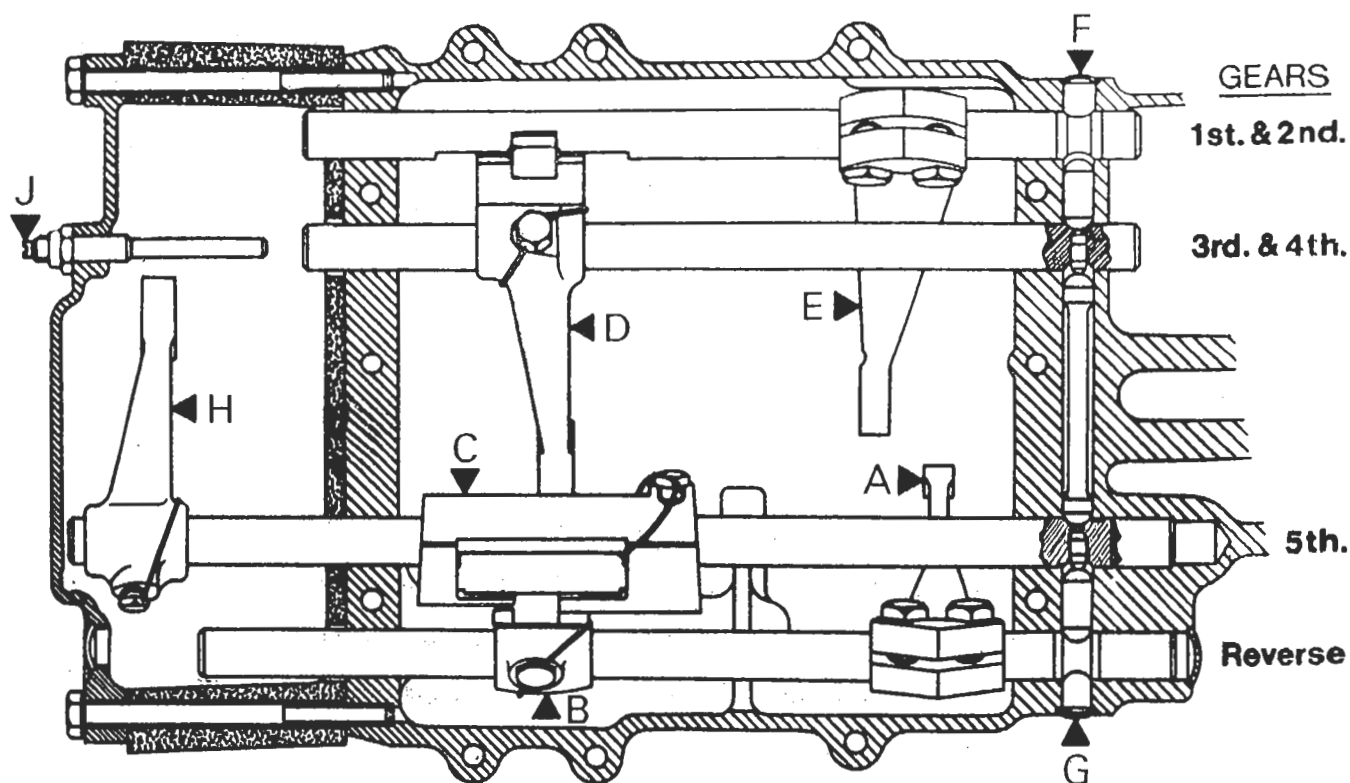

Fig.5 Gear selectors
1. Place the first interlock plunger in from the opening at (F) figure 5 and locate in the 1st and 2nd selector shaft notch.
1. Place the long interlock plunger in from the opening at (G) figure 5 and ensure that the fitted selector shafts are located in the 'neutral' position. This will allow the 5th gear selector shaft to be inserted into the differential end of the gearbox.
1. Place the last interlock plunger in from the opening at (G) figure 5 and ensure that the fitted selector shafts are located in the 'neutral' position.
4. Place a shim of thickness 'Y' +0.5 mm between the pinion and slider. Tighten the screw of the stop (J in fig.5) until it bears against the shaft of the 3rd and 4th gear fork.
8. Remove the 1st and 2nd gear selector fork, (E) figure 5.